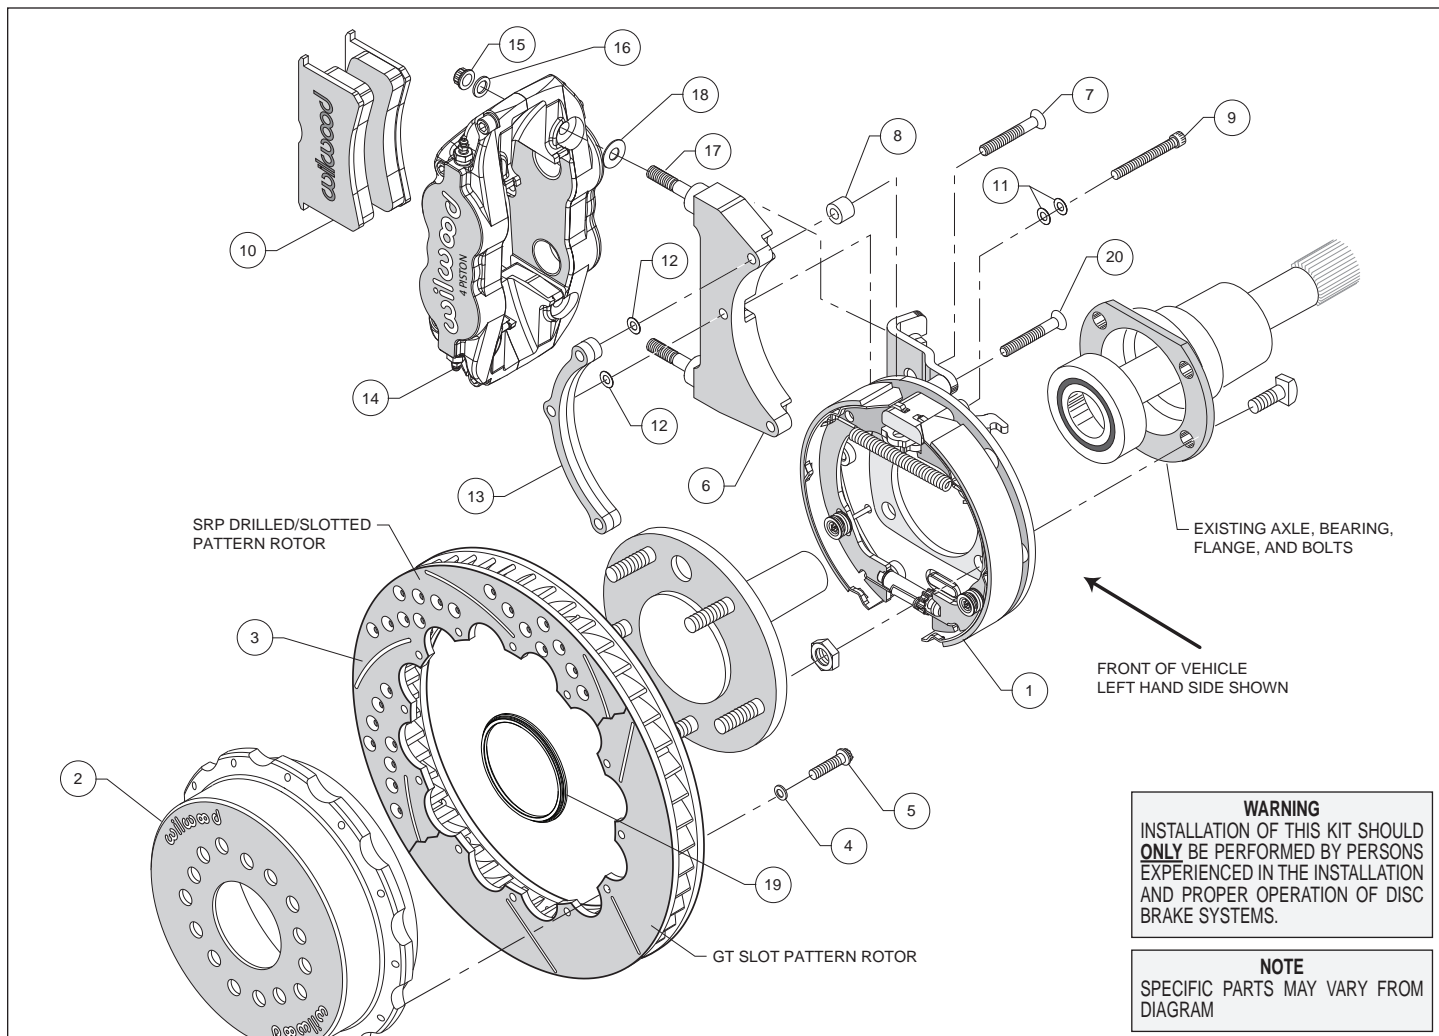
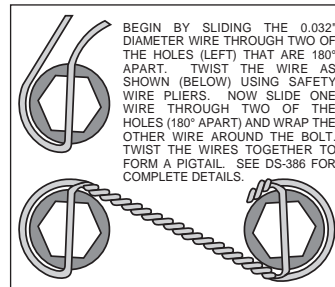

Figure 1. Typical Installation Configuration
Figure 4. Safety Wire Diagram
Assembly Instructions (numbers in parenthesis refer to the parts list and Figure 1 on the preceding pages): **CAUTION:** All mounting bolts must fully engage threaded holes.
- Orient the bracket assembly (1), as shown in Figure 1, and mount to the axle housing flange using the Original Equipment Manufacturer (OEM) bolts and nuts, Figure 1. Ensure that the bracket assembly backing plate fits flush against the axle housing flange. Apply red Loctite® 271 to the OEM bolt threads and torque to OEM specifications.
- **NOTE:** Please reference the caution statement at the beginning of the assembly instructions. The caliper mounting bracket assembly (6) should initially be installed with clean, dry threads on the mounting bolts. **NOTE:** The caliper bracket must tighten squarely against the back side of the bracket kit assembly (1). The ends of the bolts should not exceed inside face of insert. Later, after the caliper alignment has been checked, the mount bolts will be secured using red Loctite® 271.
- Remove and discard temporary rubber spacer from bolt (7). Orient bracket (6) and 3-hole spacer (13) as shown in Figure 1 and Photo 1, and install using bolts (9) and washers (11) in the middle and lower hole locations, Figure 1. Use bolt (7) in the upper hole with spacer (8) placed between the bracket (6) and the cable stop bracket, Photo 1. Initially place one .015" shim washer (12) on each of the three bolts between the bracket and 3-hole spacer, Figure 1. Temporarily tighten the mounting bolts.
- Orient the rotor (3) and the hat (2) as shown in Figure 1 and Photo 2. Attach rotor to hat using bolts (5) and washers (4). Using an alternating sequence, apply red *Loctite*® 271 to the threads, and torque to 155 **in-lbs**. For an added measure of security, the bolts may be safety wired using standard 0.032 inch diameter stainless steel safety wire as shown in Figure 4. Please refer to Wilwood's data sheet DS-386 (available at www.wilwood.com/Pdf/DataSheets/ds386.pdf) for complete safety wire installation instructions.
- Slide the rotor registration adapter (19) onto the axle register on the axle flange with the smaller O.D. facing toward the rotor/hat (3 and 2), Photo 3. Align the correct hole pattern in the hat with the stud pattern on the axle flange and slide into place, Figure 1 and Photo 4. **NOTE:** The rotor/hat must fit flush against the axle flange or excessive rotor run out may result. Install three lug nuts (finger tight) to keep the rotor/hat assembly in place while continuing with the installation. **NOTE:** Some OEM and after market axles come with stud sizes larger than 0.50" diameter. Verify stud size and have a qualified machine shop drill the bolt circle of the hat/rotor to the correct stud size, if necessary.
- Lubricate the caliper mounting studs (17) with lightweight oil. Initially place one .035" thick shim (18) on each stud as shown in Figure 1 and Photo 5. Mount the caliper (14) onto the bracket (6) using lock nuts (15) and washers (16), Figure 1. Temporarily tighten the lock nuts and view the rotor through the top opening of the caliper. The rotor should be centered in the caliper, Photo 6. If not, adjust by adding or subtracting shims (12) between the bracket (6) and the 3-hole spacer (13). Always use the same amount of shims on each of the three mounting bolts. Once the caliper alignment is correct, remove the bracket mounting bolts (7 and 9) one at a time, apply red *Loctite*® 271 to the threads, and torque to 180 **in-lb**. Also, remove cable stop bracket bolts (20), apply red *Loctite*® 271 to threads and torque to 180 **in-lb**.